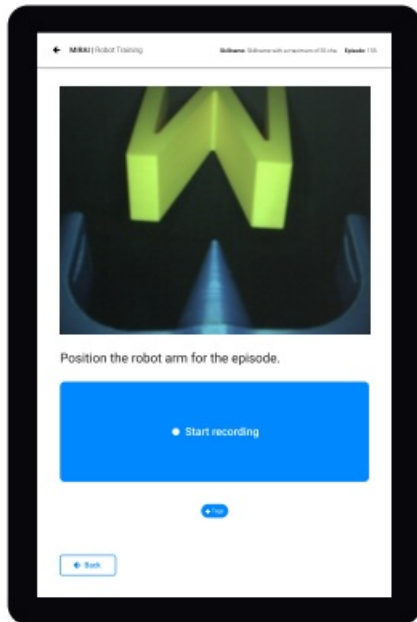

FIGURE 7
2. Tap Start recording and guide the robot in a smooth motion to the target position motion. This can be a curved trajectory to move around obstacles, but it should be the shortest, most direct path. Once the trajectory is complete, hit Stop recording. (Figure 7)